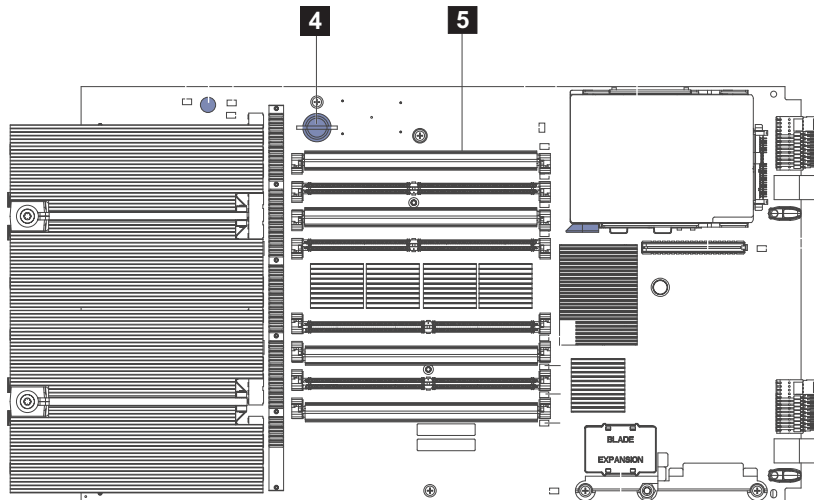

Figure 18. Expansion blade DIMM 1 slot and the expansion blade retention screw
8. To access the expansion blade retention thumb screw (shown by **4** in Figure 18), remove the DIMM in DIMM slot 1 ( **5** ), as described in "Removing a memory module" on page 269.